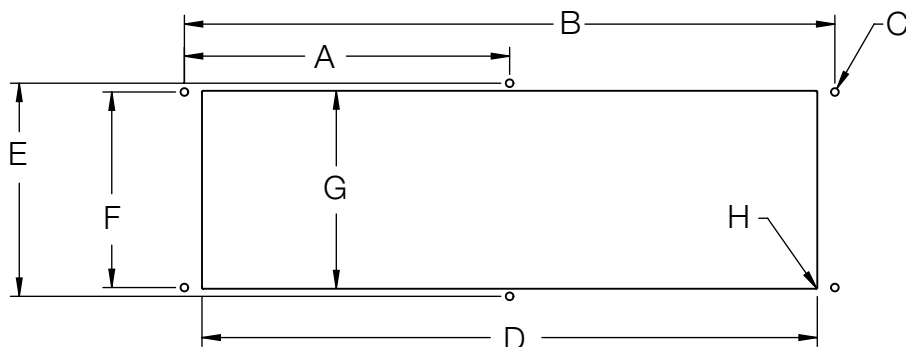

Figure 7: Panel cutout and drilling plan for flush or semi-flush mounting
- Panel cut-out and holes for mounting screws as shown in Figure 7.